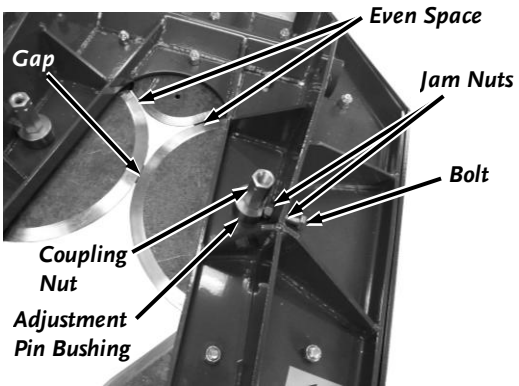

Figure 22
1. Loosen the Coupling Nuts at the center of each circular Blade with a 1/2" Breaker Bar and 3/4" Socket (**Figure 22**).